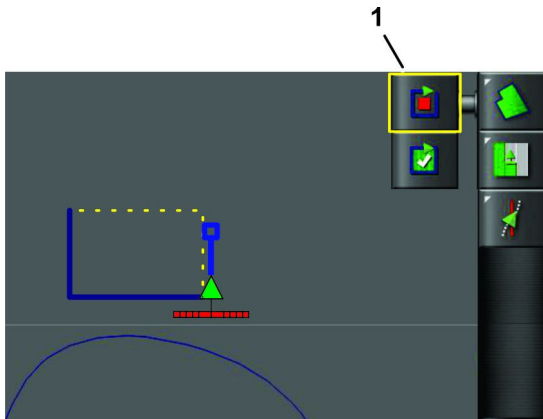

Figure 49
5. Repeat steps 3 and 4 for all the remaining points (Figure 49) except for the last open point.